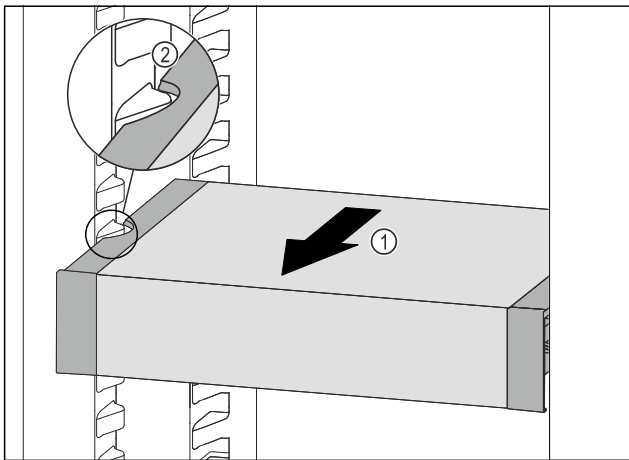

Fig. 116
- ▶ Pull VarioSafe forwards Fig. 116 (1) until the recesses in the side of the VarioSafe are at the level of the support rib in the fridge section. Fig. 116 (2)